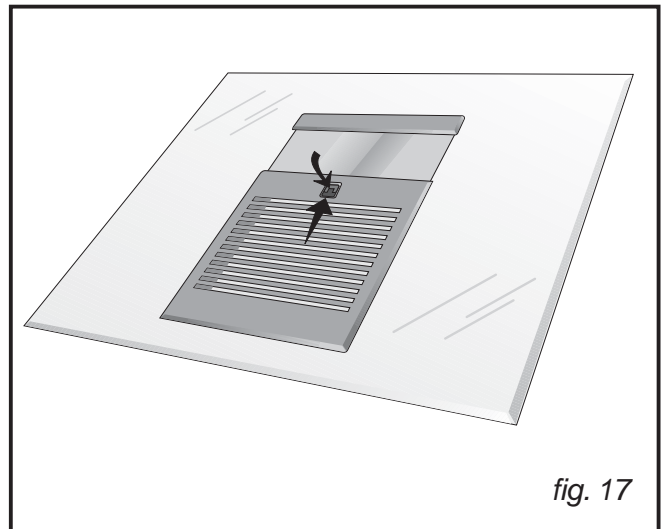
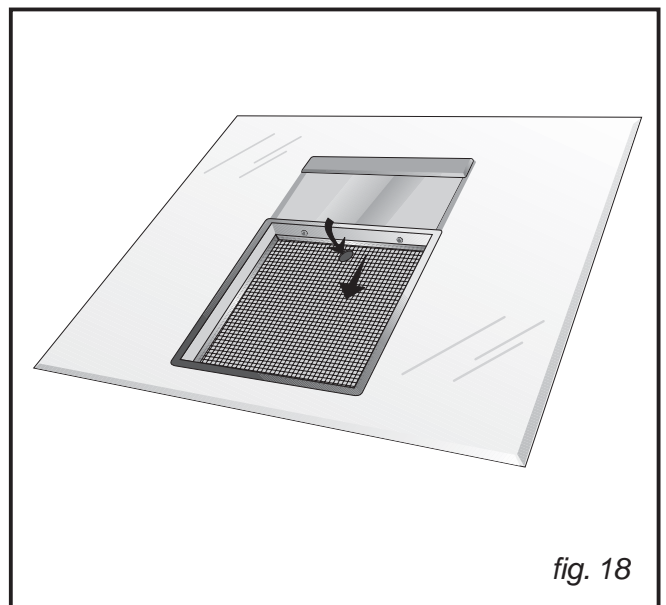

fig. 17
fig. 18
• Removing the grease filter (fig. 17 / 18)
Pull the catch and move the metal grille upwards (Fig.17); Remove the grease filter by pushing it downwards and turning it outwards (Fig.18).
Remove the metal grille (Fig.17) and the grease filter (Fig.18).